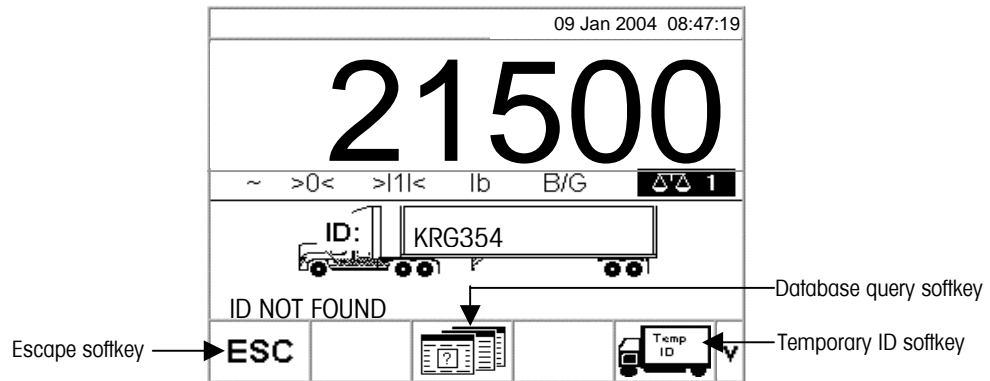

Figure 2-6: Default Weight Screen
If the vehicle's ID is not located, the display reads ID NOT FOUND (see Figure 2-6).
- **Escape**—Press the ESCAPE softkey (see Figure 2-6) to return to the main Default Weight Screen.
- **Search for the vehicle ID**—Press the DATABASE QUERY softkey (see Figure 2-6) to search for the vehicle ID in the Vehicle ID table. Once the correct ID is located, continue with the outbound process (see Outbound Process).
- **Create a temporary ID**—Press the TEMPORARY ID softkey (see Figure 2-6) to store the ID in the Temporary ID table (see Temporary ID Weighing, which follows).
- **Search for the vehicle ID**—Press the DATABASE QUERY softkey (see Figure 2-6) to search for the vehicle ID in the Temporary ID table. Once the correct ID is located, continue with the outbound process (see Outbound Process).